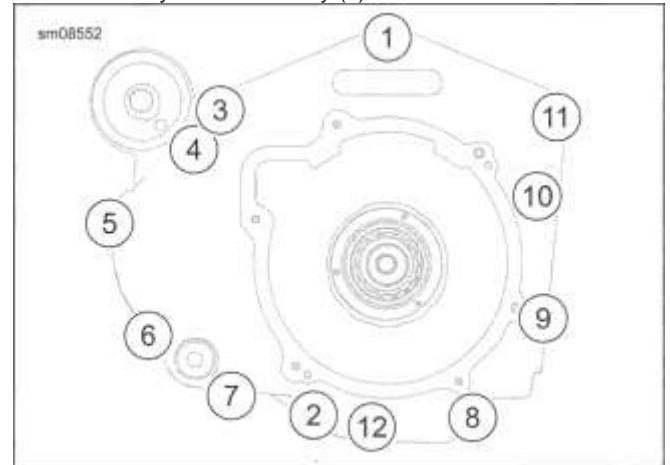

Figure 4-61. Crankcase Torque Sequence
a. See Figure 4-61. Remove crankcase screws in sequence shown.
6. See Figure 4-61. Install crankcase screws.